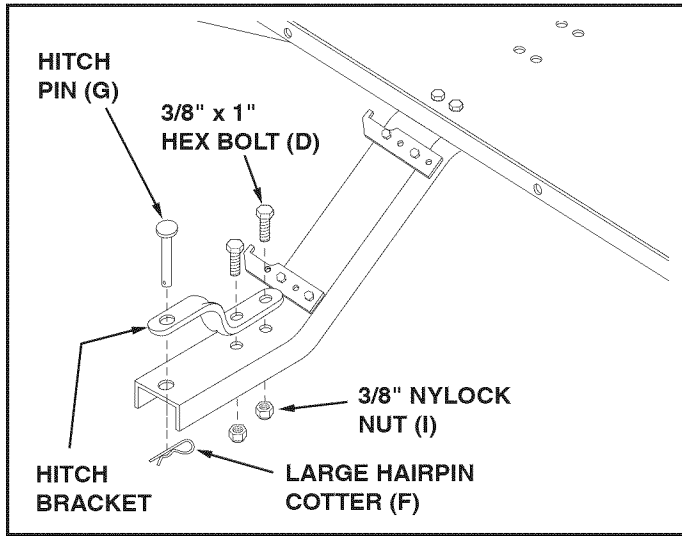

FIGURE 7
- Assemble the hitch bracket to the tongue using two 3/8" x 1" hex bolts (D), and two 3/8" nylock nuts (I). **Tighten.** See figure 7.
- Assemble the hitch pin (G) through the hitch bracket and the tongue. Secure the hitch pin with the large hairpin cotter (F). See figure 7.